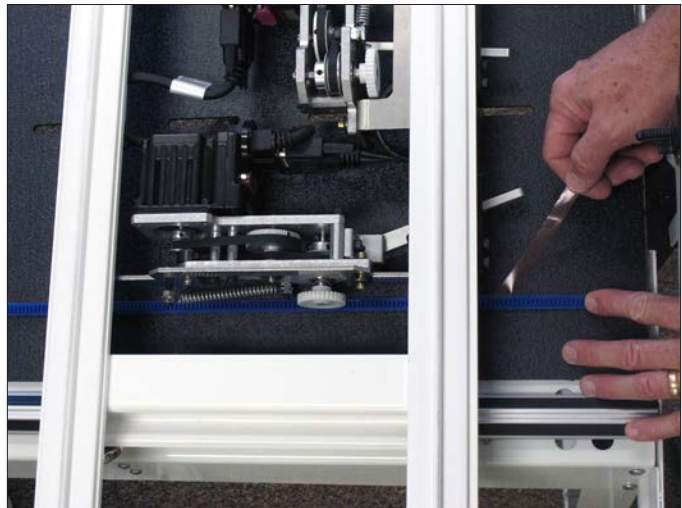

Figure 3.3
3. Starting at one end of the table, begin mounting the blue flexirack to the table surface. Using the X-axis engagement lever, drop the white X-axis gear so it engages with the blue flexirack. With the blue flexirack in position under the white gear, begin peeling the pink protective layer from the back side of the blue flexirack and pressing down on the blue flexirack to stick it to the table surface (*Figure 3.3*).